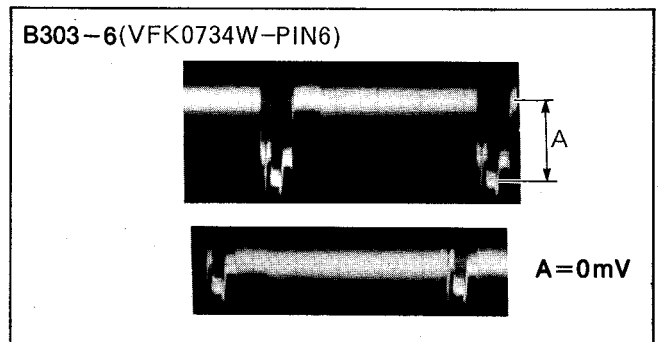

Fig. C14
4. * Push [INC] or [DEC] keys until the "A" level is minimized, as shown in Fig.C14.